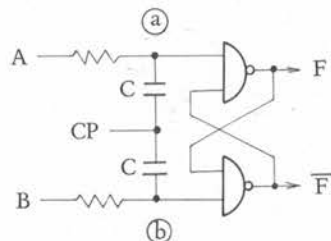

Fig. 5-2 Flip-flop
Usually the capacity of condenser (C) is 47pF: but in some instance, the capacity must be increased a little according to the operation speed of the IC. In such case, the capacity of the condenser must be less than 100pF, but if larger capacity is required, the IC must be replaced. When the capacity of the probe is too large when observing the wave form with an oscilloscope, some times it interferes with the operation of the flip-flop. Especially when checking the wave forms at point (a) and (b) shown in the Fig. 5-2. Always be sure that a 10K Ω resistor is attached to the probe in series to prevent a mis-operation of the flip-flop. However, when attaching the resistor, sometimes the wave form becomes more or less dull. The input capacity of the probe of the oscilloscope is usually about 10pF.